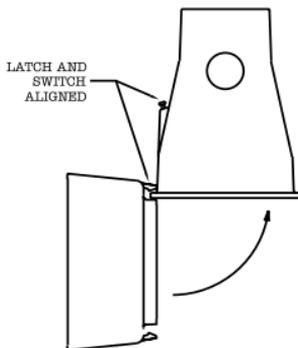

Figure 2
4. If the top of your powder pan sits higher than 2-1/8" from your work surface, install the trickler stand on your trickler by holding the stand at a 90° angle to the main trickler with latch held up against the switch side of the trickler. Slowly rotate the stand until it is latched in place (see figure 2).